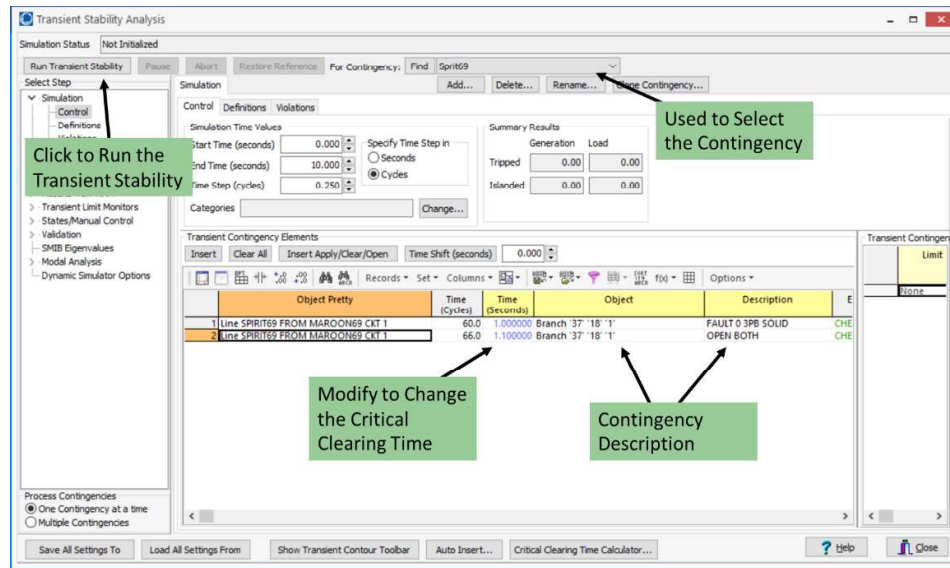

Figure 2: Transient Stability Form
1. Start PowerWorld Simulator. Open the Lab10\_AGL\_TS case. The system has been setup to run transient stability with several contingencies predefined for the lab. Select **Add Ons, Transient Stability** to display the Transient Stability form. This will be used throughout the lab to do the transient stability simulations. This is shown in Figure 2.